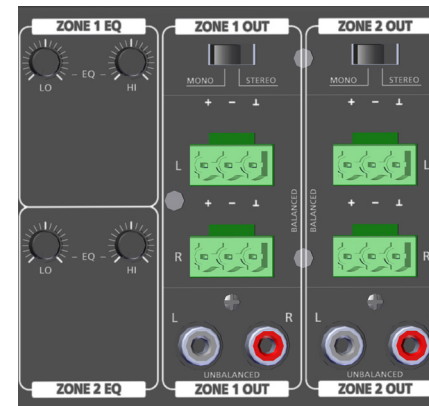

Figure 7. Zone Outputs & EQ
1. See Figure 7. Connect stereo outputs to either the balanced Euroblock or unbalanced RCA connectors for Zones 1 or 2. Stereo or Mono may be selected.